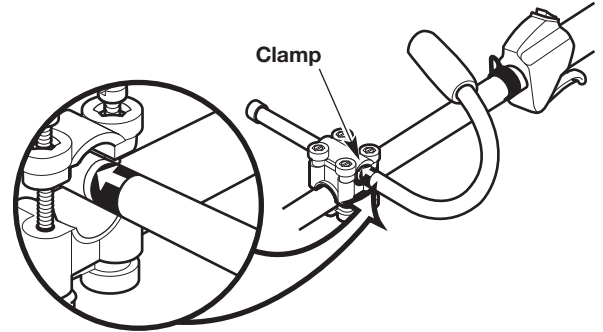

Fig. 5
5. Hold the unit in the operating position (Fig. 21) and slide the handle in or out of the clamp until the arrow/line on the decal touches the clamp (Fig. 5).